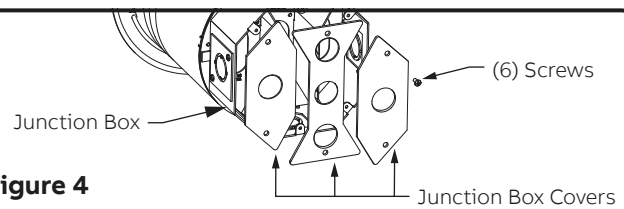

Figure 4
4.1 Remove the bottom (3) Junction Box Covers from the bottom of the Junction Box by removing the (6) screws holding the Covers (See Figure 4).
4.3 Replace the bottom (3) Junction Box Covers (See Figure 4).